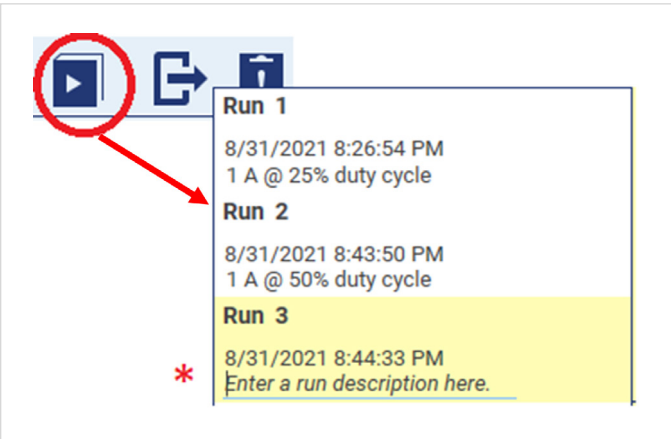

Figure 15: Use the Run History to help document changes to the app configuration.
- 12. Select each of the individual runs and update the area reading “Enter a run description here” to provide a general description of the test configuration run (see **Figure 15** for an example).